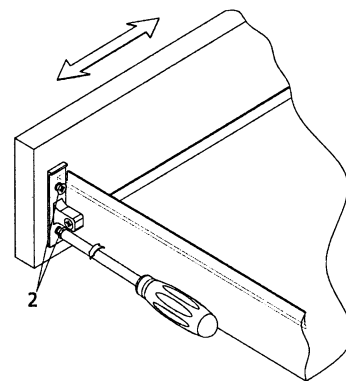

Fig. 7
Carry out the horizontal adjustment of the frontal panel loosening the two screws (2) of fig. 7; once adjusted the position of the frontal panel tighten the two screws (2) again.